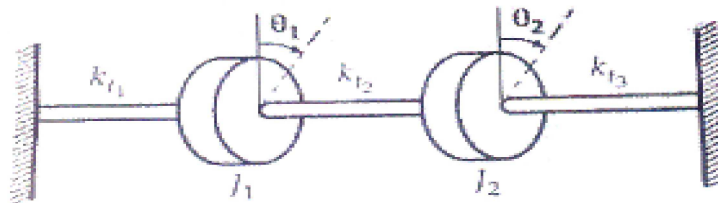

Fig. 3 (Q. 6a)
**Q6) a)** Find the natural frequencies and mode shapes for the torsional system shown in Fig. 3. Assume  $J_1 = J_0$ ,  $J_2 = 2J_0$  and stiffness for each spring as  $k_t$ . [12]